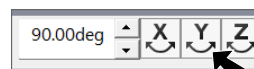

Fig. 18
Step 6. In the Rotate context toolbar click the **Y** axis **twice** to rotate 180°, **Fig. 18**.